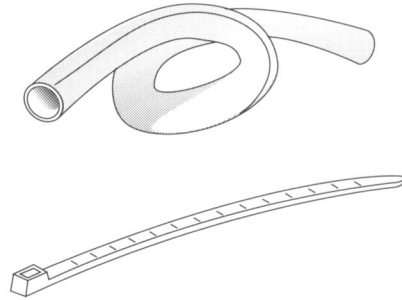

Figure 12. Flexible Plastic Tubing and Tie-wraps.
5. To both protect and conceal the wiring, we recommend using automotive flexible plastic tubing and plastic tie-wraps to bundle wires for ease of handling (see Figure 12).